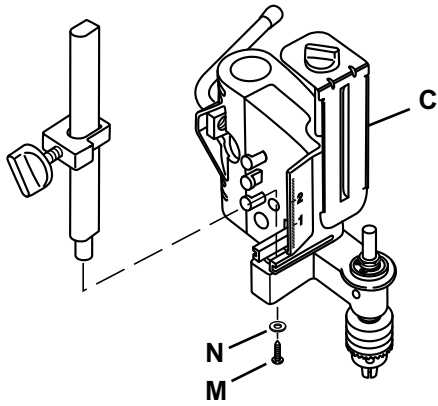

Figure 4
5. Slide depth stop assembly into head assembly (C) and secure with screw (M) and washer (N). See Figure 4.